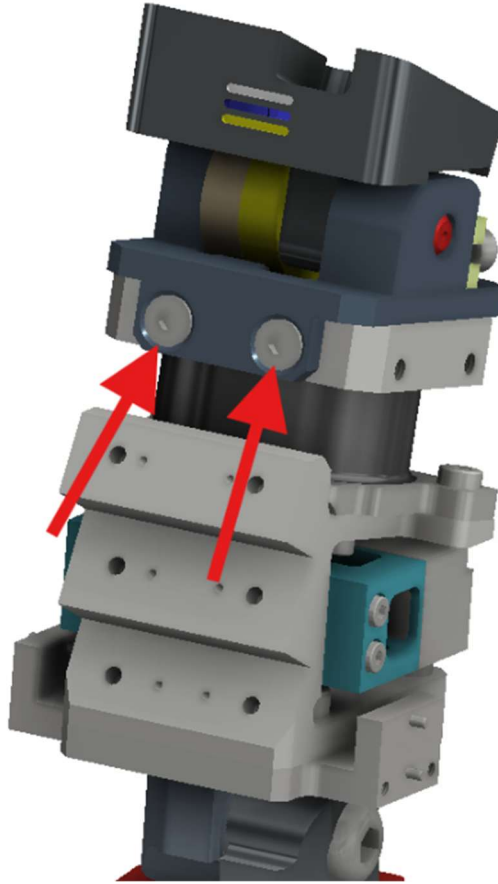

Figure 6-9. Remove the Neck Posture Adjustment Assembly (474-3050) from the Upper Spine Assembly (474-3240)
- 6.2.2 Remove the Neck Posture Adjustment Assembly (474-3050) from the Upper Spine Assembly (474-3240) by removing four M6 X 1 X 12 LG. FHCS (Figure 6-9).